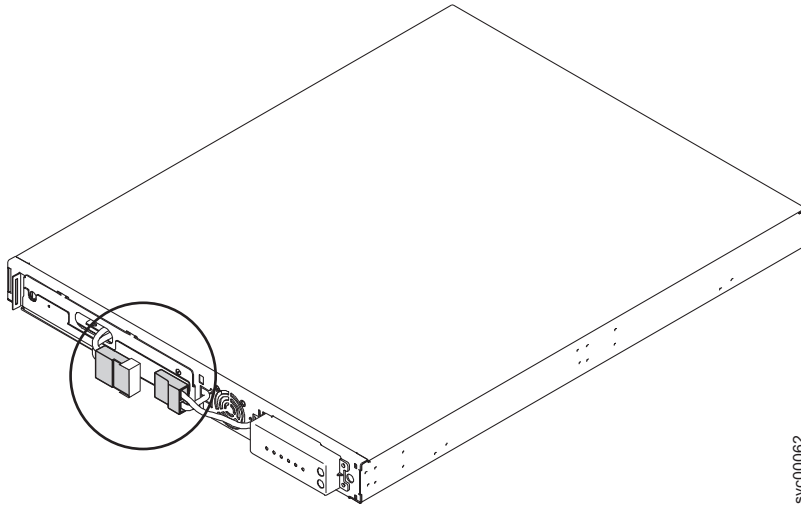

Figure 316. The 2145 UPS-1U internal battery connector with protective tape
6. Remove the protective tape from the internal battery connector (circled in Figure 316 on page 329).